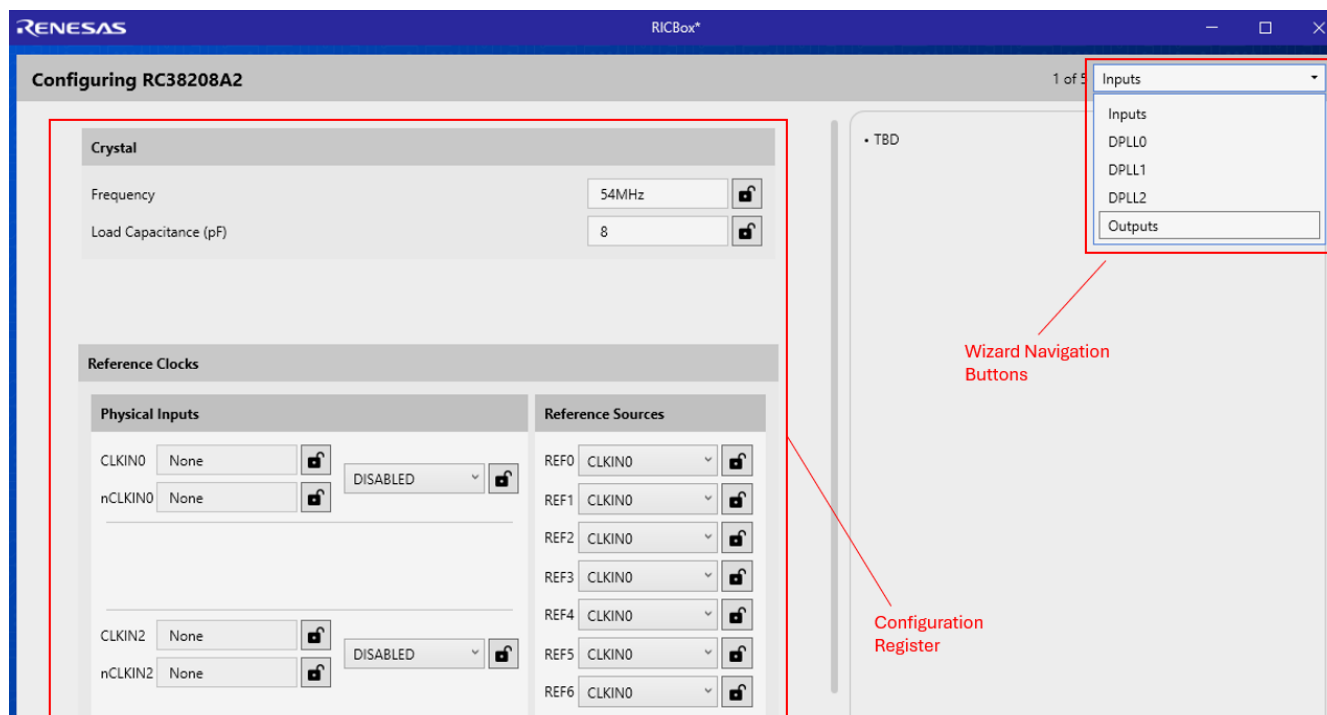

Figure 25. RICBox Wizard Navigation
- Follow the on-screen wizard (see Figure 25) to configure the device for general evaluation starting from “Inputs”, then “DPLL”, and finally “Outputs”.